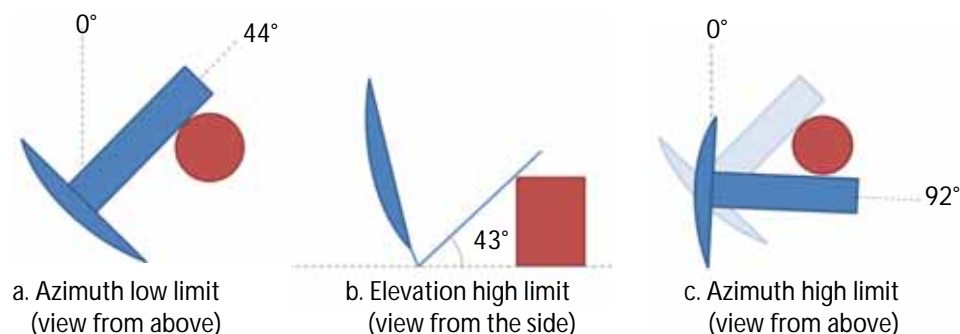

Figure 6-2: Boom blocking zones, example with cylinder-shaped blocking object
4. Define the boom blocking zones as follows (see Figure 6-2)